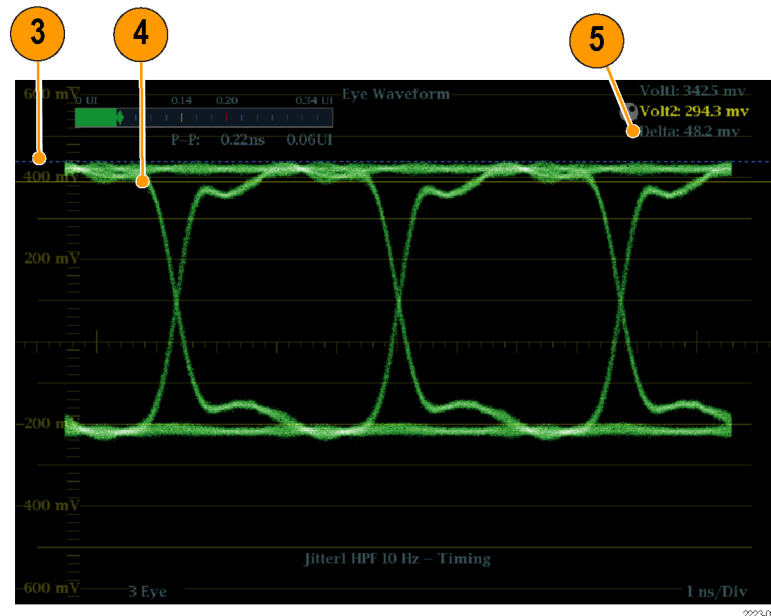

Figure 66: Using cursors to measure aberrations in the Eye pattern
3. Position one voltage cursor at the peak of the overshoot at the top horizontal part of the waveform. (See Figure 66.)
4. Position the second voltage cursor at the bottom of the top line of the waveform. Include any ringing (the oscillation following overshoot) in the measurement. Essentially, you are measuring the thickness of the top line of the waveform. (See Figure 66.)
5. Note the amplitude of the aberration displayed in the Voltage Cursor readout. (See Figure 66.)